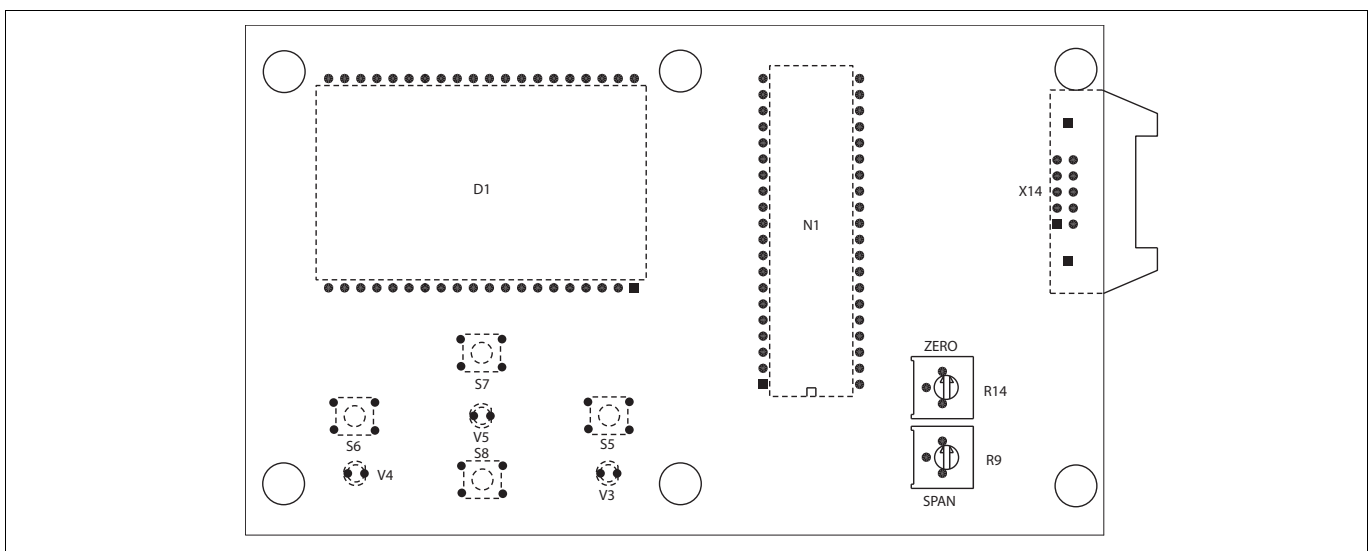

Fig. 16 Calibration potentiometers in display card
The display is calibrated with the trimmer potentiometers of display card (216), Fig. 16. Potentiometers are marked as "SPAN" (R9) and "ZERO" (R14). When the valve is in the closing position and the current is 4 mA the display is adjusted with ZERO-potentiometer to 00.0 %. Current value is measured from the pins 2 and 3 in connector X5 in connector card. When the valve is in the open position the display reading is adjusted with SPAN-potentiometer to 100.0 %.